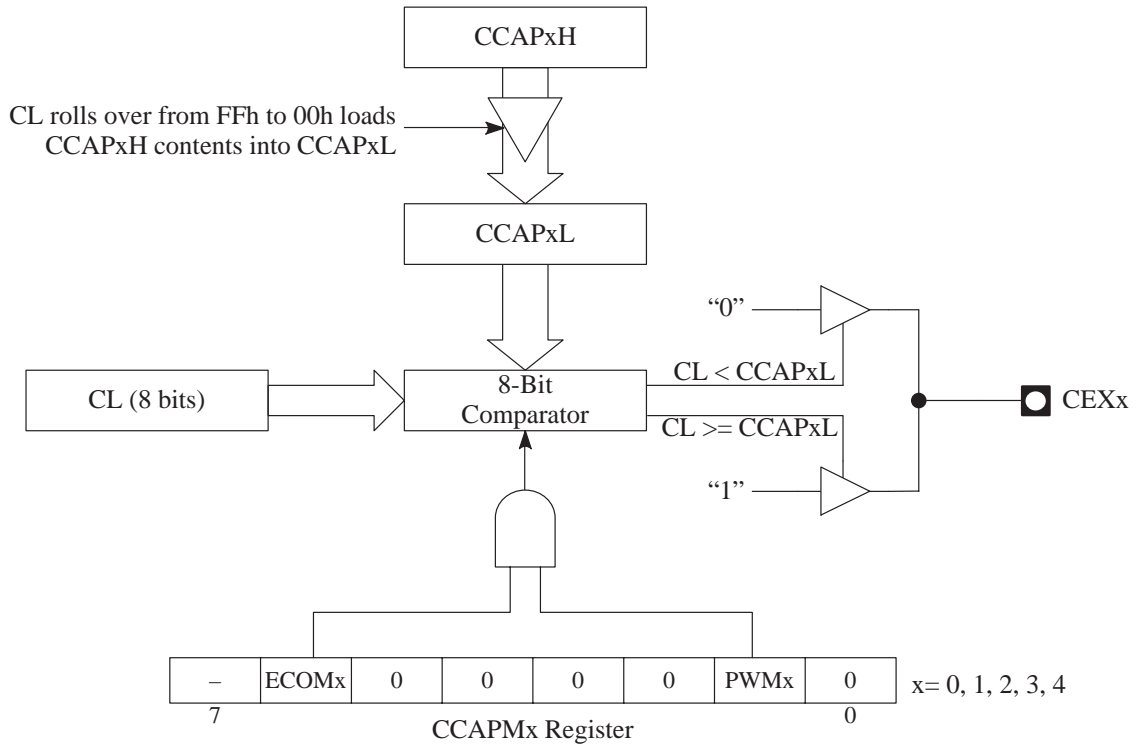

Figure 7.5 PWM Mode
In this mode, the value in the low byte of the PCA Timer/Counter (CL) is continuously compared with the value in the low byte of the Compare/Capture register (CCAPxL; x= 0, 1, 2, 3, 4). When $CL < CCAPxL$, the output waveform is low (see Figure 7.5). When a match occurs ($CL = CCAPxL$), the output waveform goes high and remains high until CL register rolls over from FFh to 00h, ending the period. At roll-over the output returns to low, the value in CCAPxH register is loaded into CCAPxL register, and a new period begins.